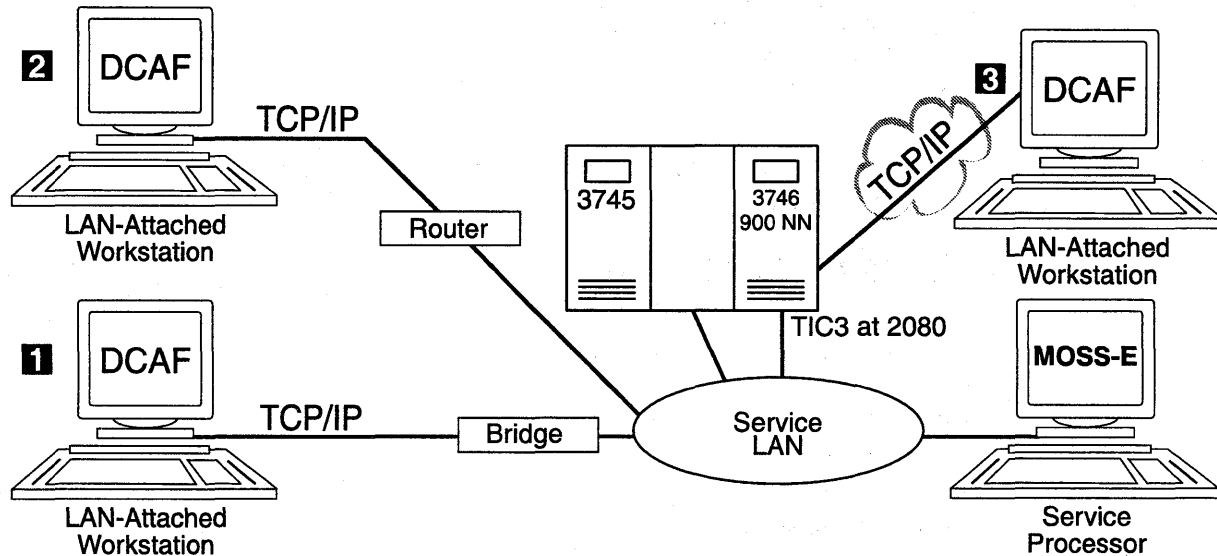

Figure 4-1. Types of TCP/IP Service LAN-Attached Remote Workstations
- A **bridge** with filtering to the service LAN (see **1** in Figure 4-1).
- A **non-3746** router (see **2** in Figure 4-1)
- The **3746** router (see **3** in Figure 4-1).
Step 7. If you have a link through the 3746 (see **3** in Figure 4-1 on page 4-1), enter the **TIC3 2080** address in the **SP default router** field and click **Next** and **Close**.